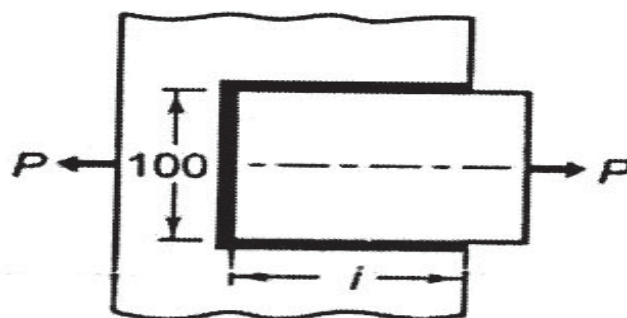

Fig.4
- b)** A steel plate, 100mm wide and 10 mm thick, is joined with another steel plate by means of single transverse and double parallel fillet welds, as shown in Fig.4. The strength of the welded joint should be equal to the strength of the plates to be joined. The permissible tensile and shear stresses for the weld material and the plates are 70 and 50 N/mm^2 respectively. Find the length of each parallel fillet weld. Assume the tensile force acting on the plates as static. [12]